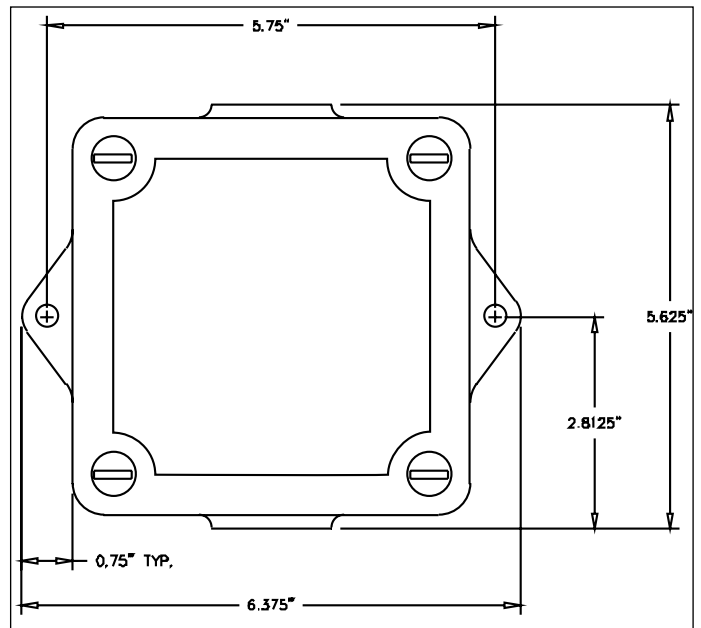

Figure 1
2. Mount the thermostat base on the surface selected. See Figure 1 for dimensions.